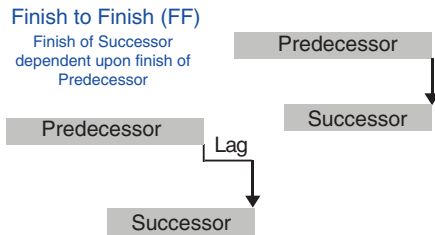

Figure 5.4 Finish to Finish relationship.
Figure 5.4 shows the Finish to Finish (FF) relationship, where the Successor task cannot finish until the Predecessor task has finished. FF relationships often have associated leads or lags.